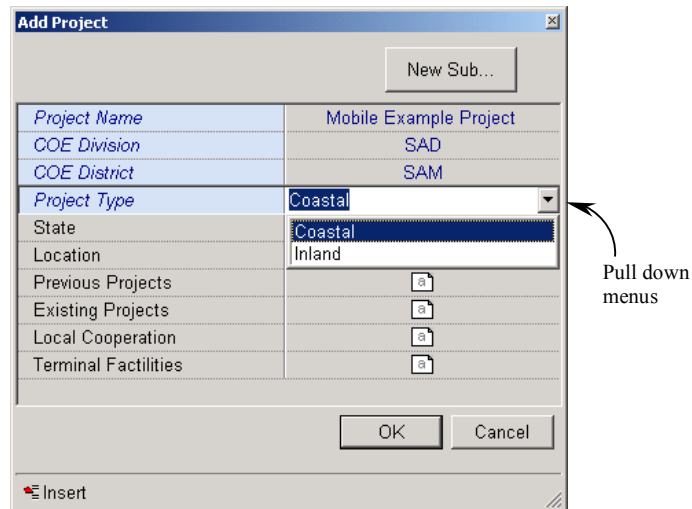

Figure 1.3. Add Project window
2. In the *Add Project* window, type in the Project name and select the *COE Division*, *COE District*, *Project type*, and *State* from the pull-down menus for the new project as shown in Figure 1.3. Note: Project names should be unique for a district.
The project window will appear as it did in Figure 1.3, allowing change of any of the project information. Refresh the view after any changes are made to the project for these changes to appear on the data explorer screen.